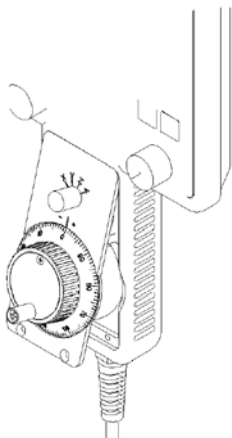

Figure 3
3. Insert the MPG module into the M39 pendant top edge first and press it down into the pendant body as pictured in figure 3. Make sure all wiring is running to the side of the MPG encoder not underneath as this may pinch wires.